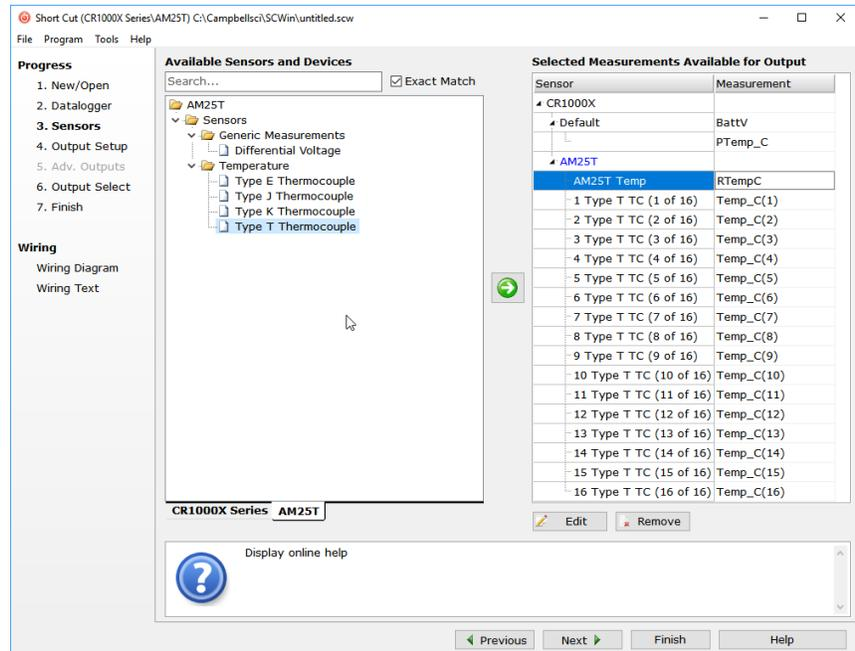

FIGURE 8-1. *Short Cut*
*Short Cut* can build many program configurations for various supported sensors, providing a quick way to generate a program and wiring diagram (FIGURE 8-1). *Short Cut* can be downloaded free of charge ([www.campbellsci.eu](http://www.campbellsci.eu)).